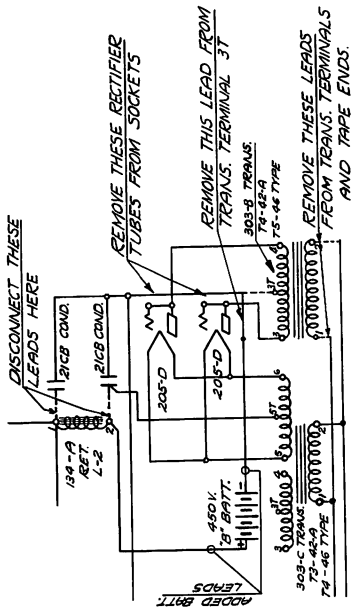
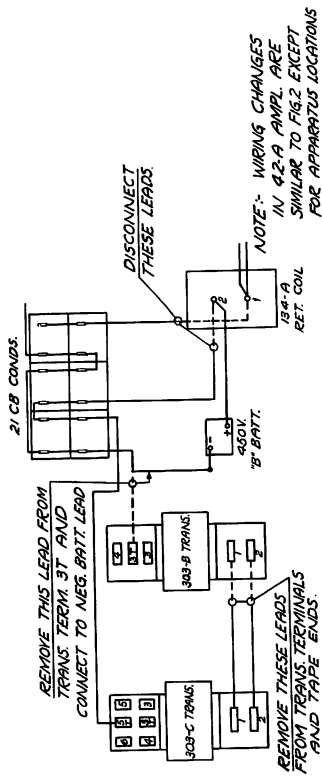

FIG. 1
FIG. 2
As illustrated in Figures 1 and 2, the No. 42-A Amplifier is of the single-stage power type with vacuum tubes in push-pull arrangement. It employs four No. 205-D Vacuum Tubes, two as amplifying tubes and two as a full-wave rectifier in conjunction with a filter for supplying the amplifier plate potential. The amplifier is designed to operate from an impedance of 16,000 ohms and has output impedances of 250 and 500 ohms. It is entirely AC operated and may be used with power supplies of 105-115 volts at 50-60 cycles.
Note: The procedure described below is illustrated in Figures 1 and 2.
5.1 To clarify Figure 1, and to add Figure 2.